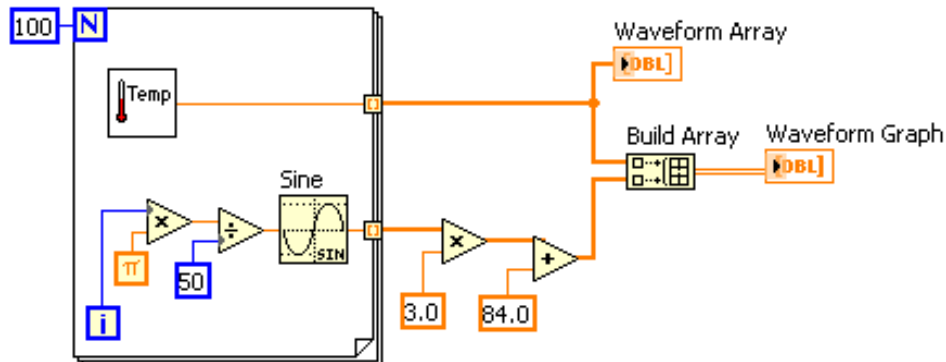

Figure 7.20
3. Return to the block diagram. Create a multiple-plot waveform graph by building a 2D array of the data type normally passed to a single-plot graph. Modify the block diagram as shown in Figure 7.20.
- (d) Wire the block diagram as shown Figure 7.20.